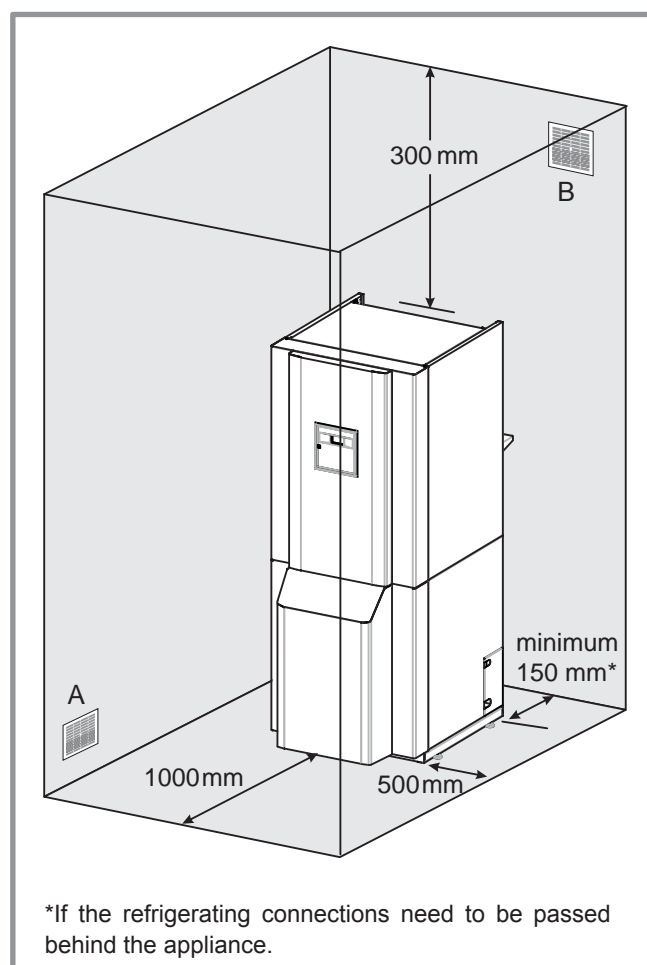

figure 16 - Minimum clearances for the installation around the Hydraulic module
with a free cross section that cannot be obstructed of at least 50 cm² that opens onto the lower part and a used air outlet (B) with a free cross section that cannot be obstructed of at least 100 cm² positioned on the upper part and opening directly outdoors (see figure 16). Refer to **Departmental sanitary Regulations Type (RSD)**, article 53.4 .